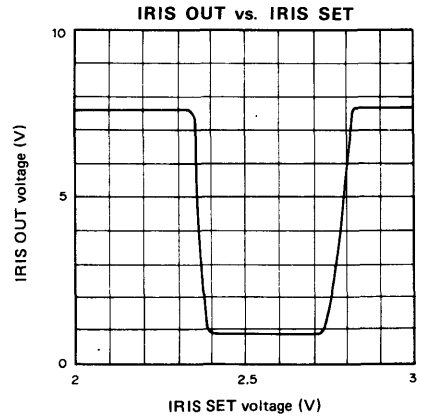

Fig. 2
Measure the voltage of IRIS output pin (23) when the E3 (IRIS SET) voltage is varied from 2 to 3V. (Fig. 2)